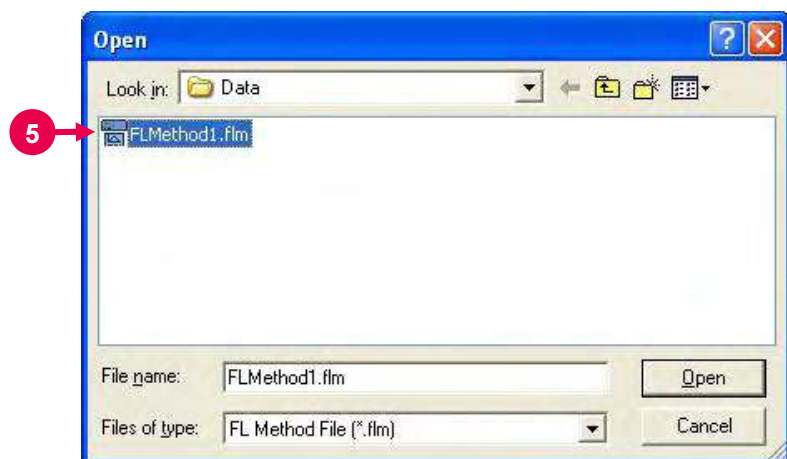

Fig. 8-3
- (4) A window as in Fig. 8-3 will open. Select a desired method file. (Refer to ⑤ in Fig. 8-3.) The extension code of method file is ".flm."